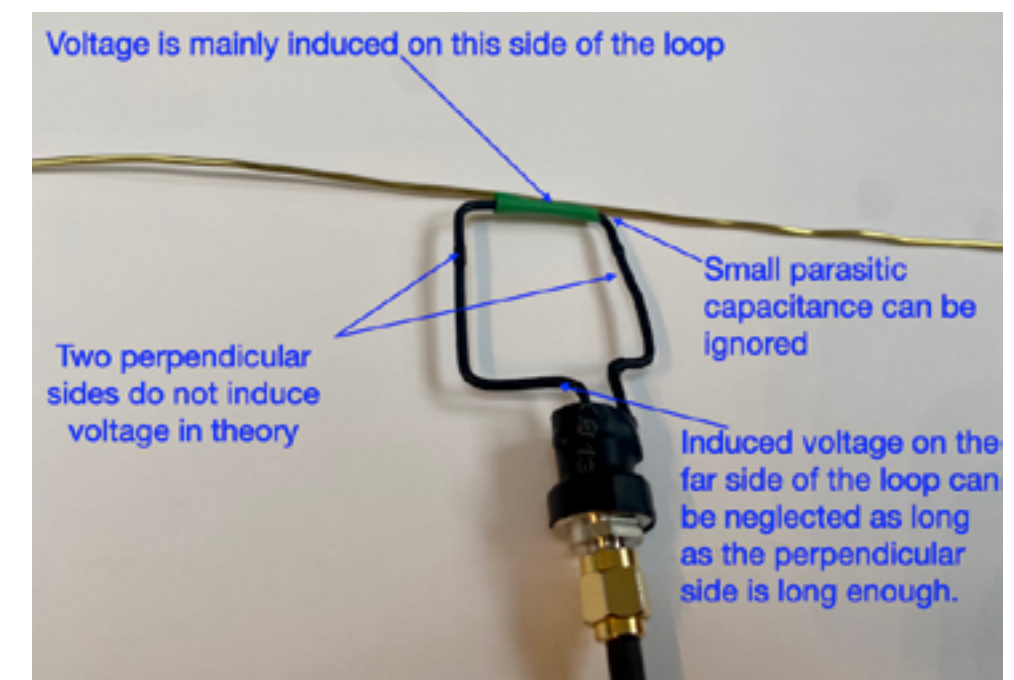

Figure 2 An unshielded square magnetic field loop placed alongside a wire
Therefore, a square magnetic field loop shown in Figure 2 is ideal to measure the induced voltage on one side of the loop, which is proportional to the rate of change of flux generated by rapidly changing current in the wire under test. Such a loop is called magnetic field loop, or "H-field loop". But it is more accurate to be called a " $d\Phi/dt$ " loop.
- 2. The opposite side of the loop is far enough away so the induced voltage on the far/opposite side of the loop is neglected (see Figure 2).
- 3. The perpendicular sides of the loop do not induce voltages (see Figure 2).